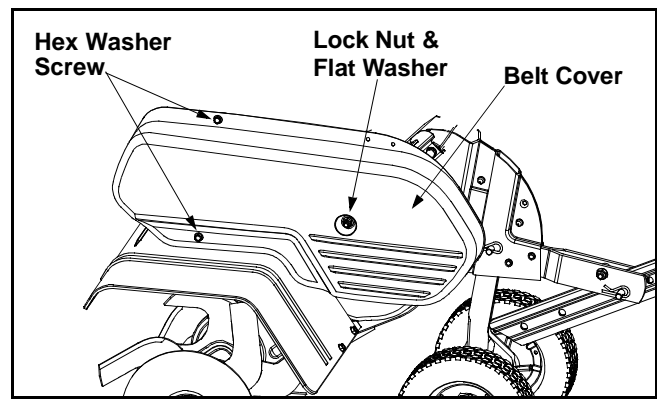

Figure 16
- Remove two self-tapping screws and flat washers from the front of belt cover. See Figure 16.